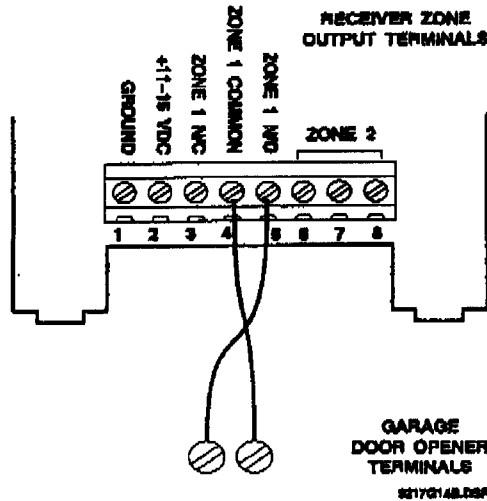

Figure 7. Wiring a receiver's zone output to the terminals of a garage door opener
- 2) Using Figure 7 as a guide, connect the garage door opener wires to the appropriate receiver zone output.